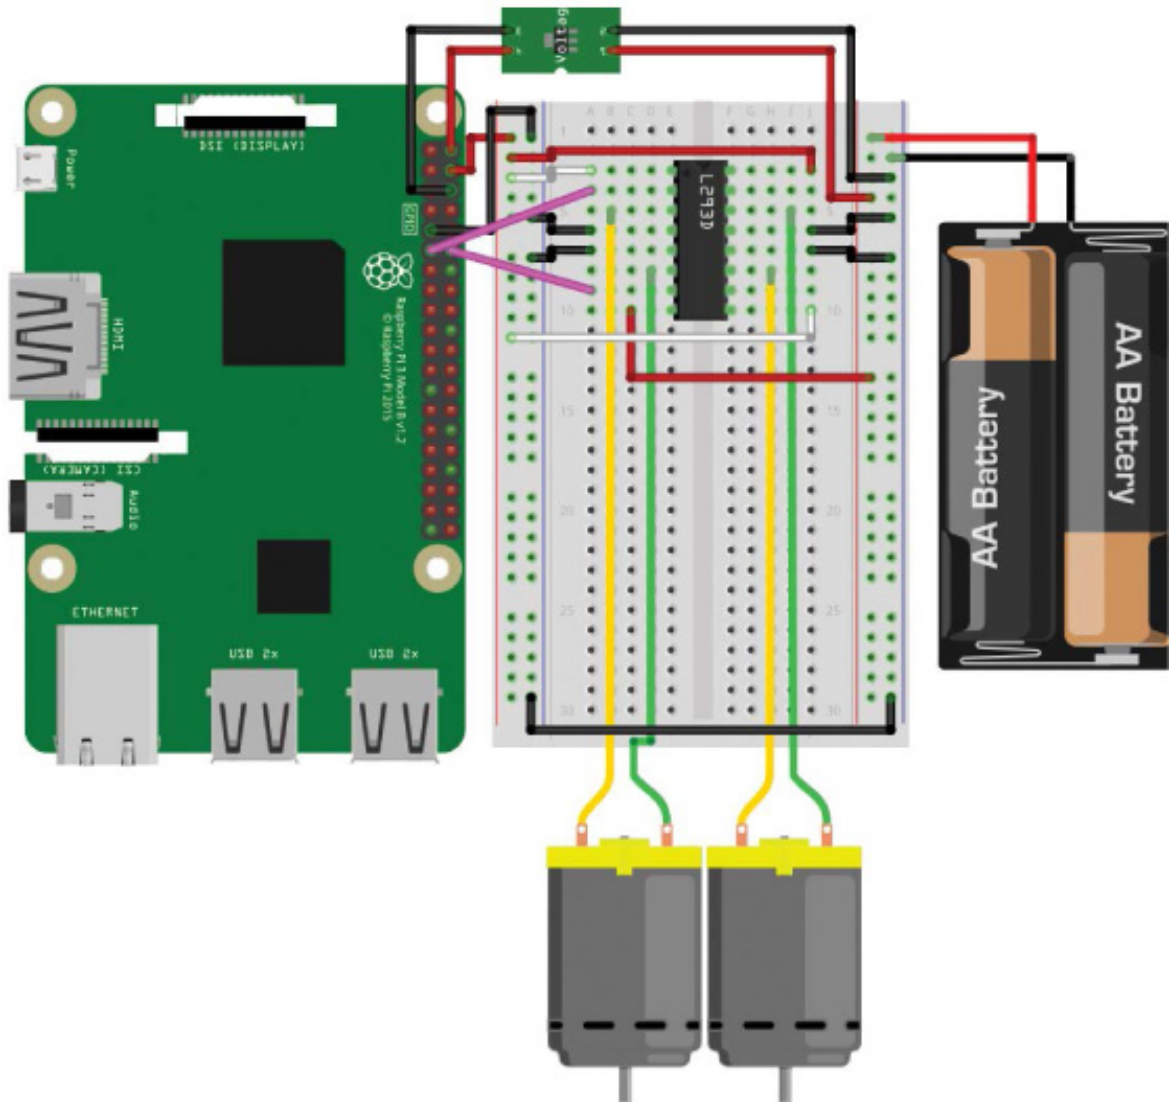

FIGURE 3-28 First motor's input control pins wired from the Pi to the L293D
- Use a M-F jumper wire to connect your Pi's physical pin 11 (BCM 17) to pin 2 (Input 1) on your L293D. Then use another jumper wire to connect your Pi's physical pin 12 (BCM 18) to pin 7 (Input 2) on your L293D. You have now successfully wired up one motor. At this stage, your breadboard should look like Figure 3-28, with the most recent additions being the pink wires.